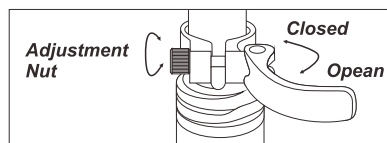

Fig.6-2 Opening and adjusting a quick release
5) Open the seatpost quick release lever(Fig. 6-2). Insert the seatpost into the seat tube to a proper depth where is between the minimum insertion line and maximum insertion line.